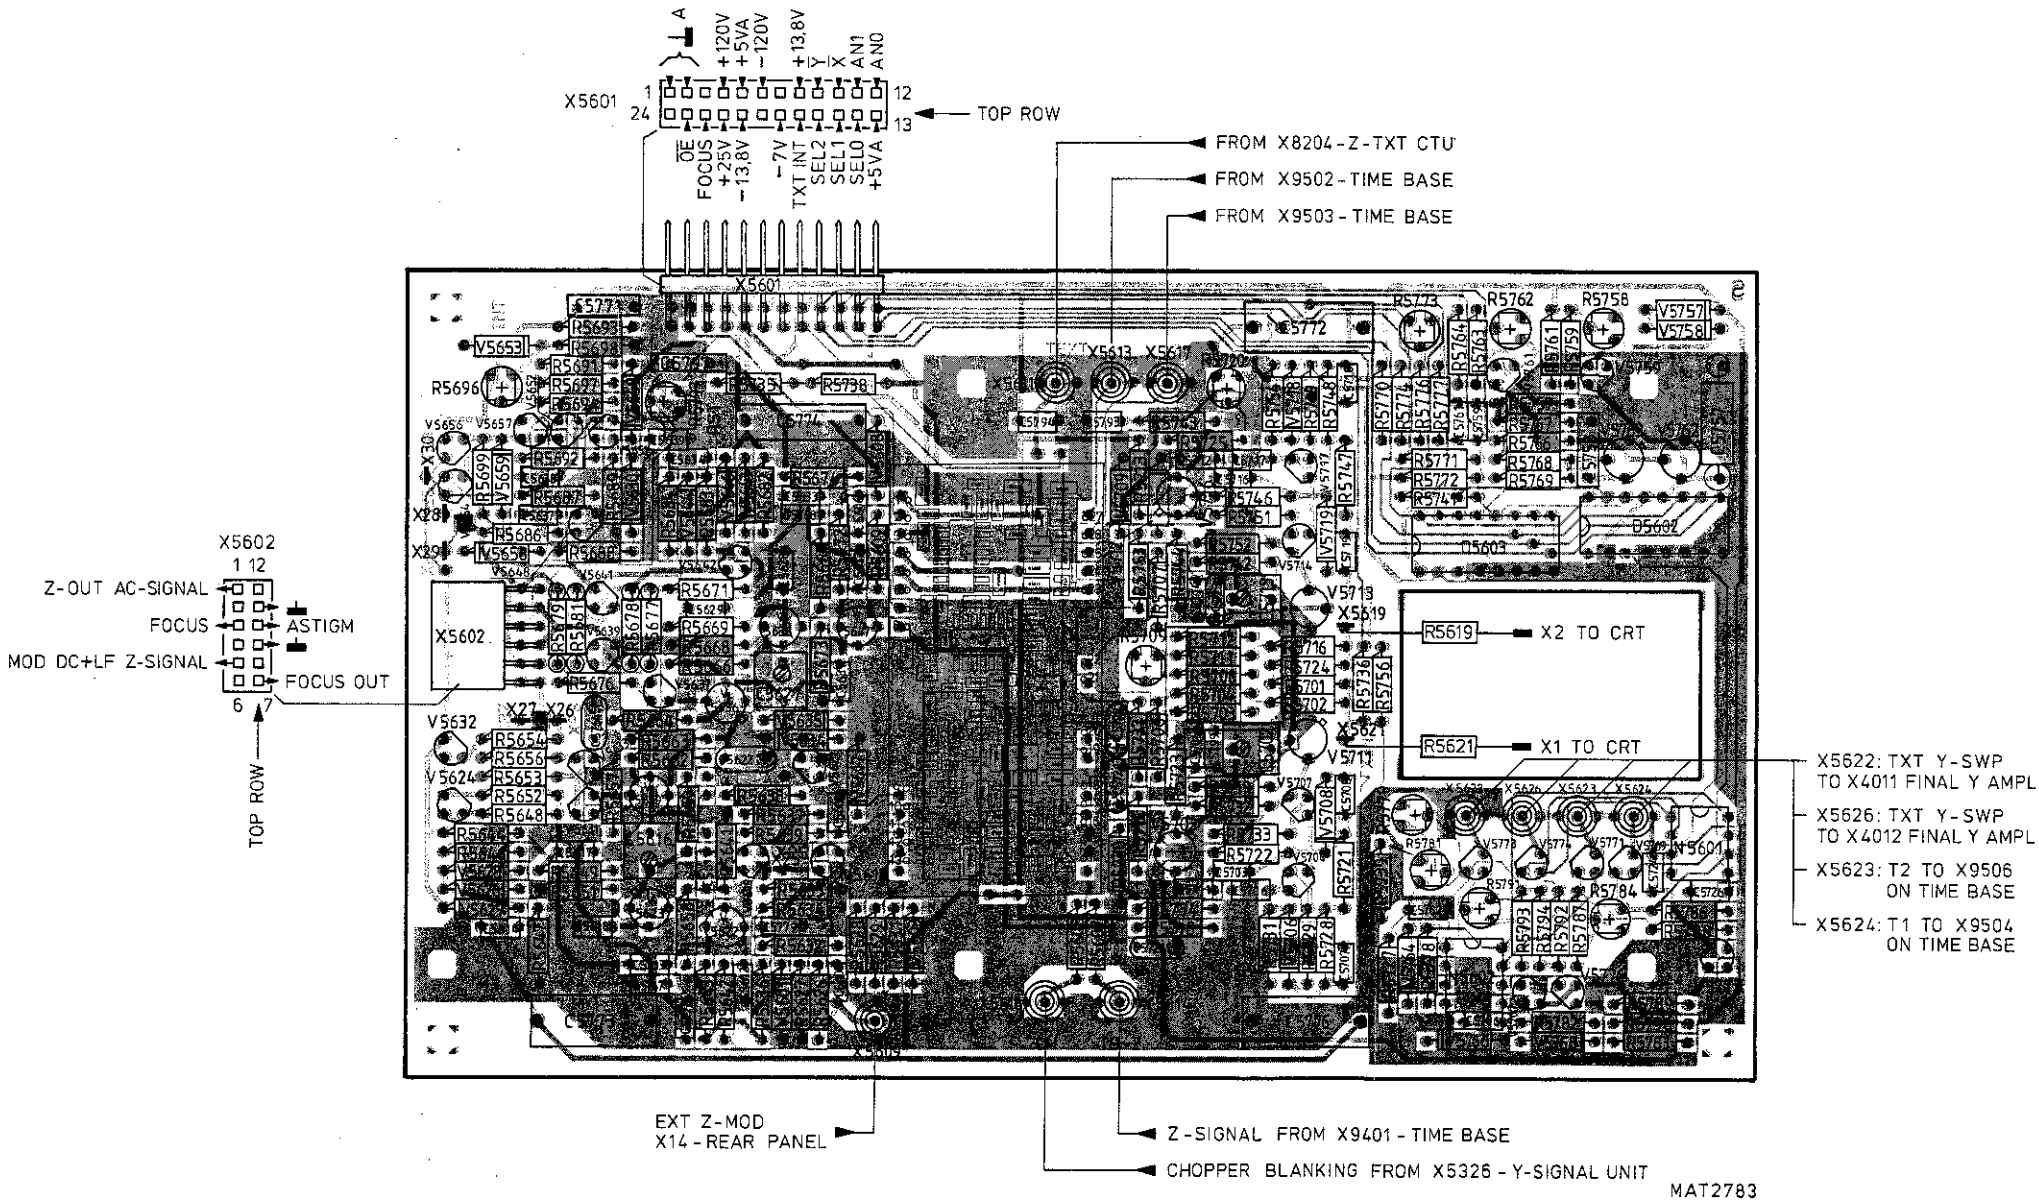

Fig.16.2. Final X/Z amplifier, p.c.b. lay-out.
16.1. CIRCUIT DESCRIPTION OF INTENSITY AND FOCUSING (See fig.16.2.)